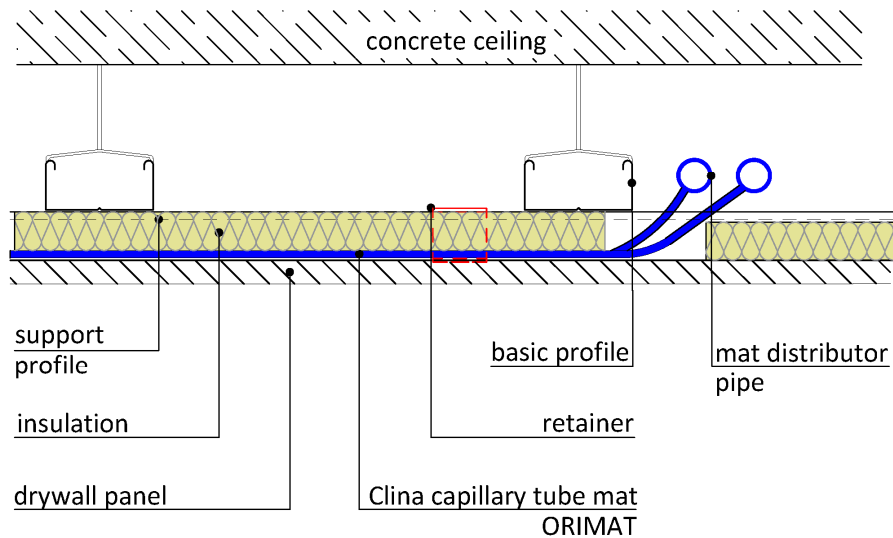
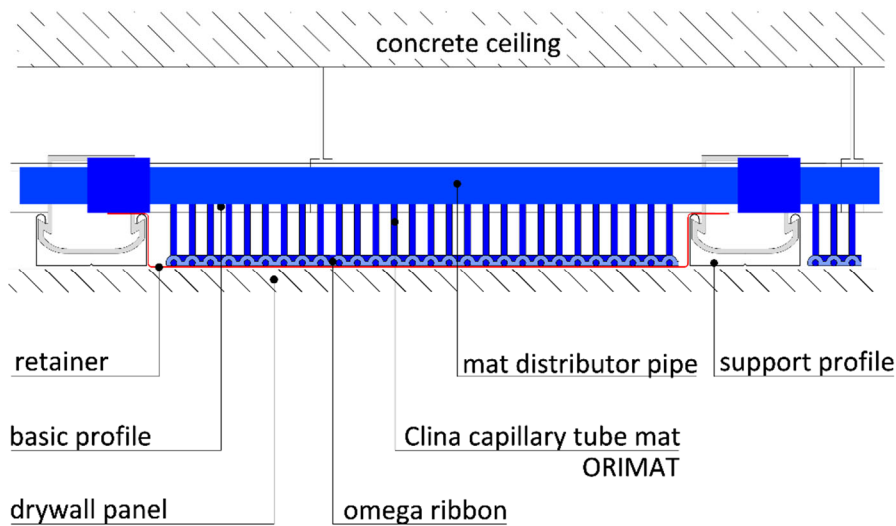

Fig. 1: section view ceiling structure with **retainer**- longitudinal
Fig. 2a: section view ceiling structure with **retainer** - transversal
4. Place the mat distributor pipes of the rolled-up capillary tube mats in the ceiling void. To do this, the mat distributor pipes are first **loosely** fixed to the basic profiles with cable ties. There must be sufficient clearance (axial and lateral) for heating element socket welding. The mats must be arranged so that the omega ribbons, with the open side (= underside of the capillary tube mat) point towards the drywall panels to be installed later (see Fig. 1, Fig. 2a and 2b)! Connection to the supply and return lines by means of heating element socket welding. The cable ties are tightened for final fixing of the mat distributor pipes to the basic profiles of the substructure.